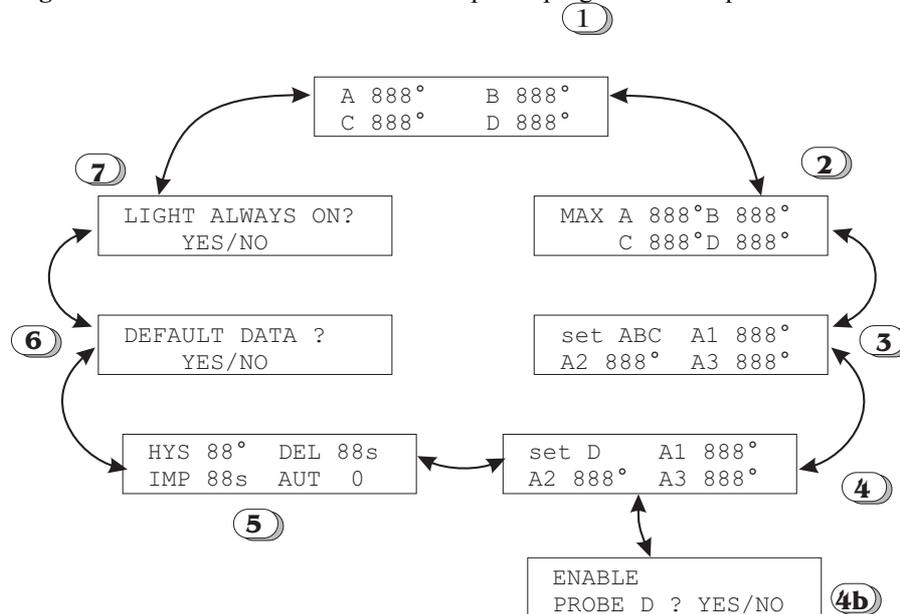

Figure 7
Pages are cyclically placed: when you arrive to the last page you directly go to the first one (see figure 7). Referring to the scheme, with the key \blacktriangledown you run the pages clockwise, whereas with the key \blacktriangle you run the pages anticlockwise.
- using **▲** and **▼** keys (as indicated in the previous paragraph) you can choose the visualization page containing the data to be programmed (for example, page 3 in figure7)
- in **page 2** of figure 7 in the programming modality, simultaneously pushing the ◆ and the ↵ keys, you can modify the maximum temperatures reached by each acquisition channel. You can only put these data at zero. Entering the programming modality the four maximum values will be simultaneously put at zero. Anyway you won't see zeros because the device, once you have finished the zero setting, will do a comparison with the measured temperatures that will surely be greater so that the maximum values will immediately be updated.
- in **page 3** of figure 7 in the programming modality, simultaneously pushing the ◆ and the ↵ keys, you can modify the temperature levels relative to the three A, B and C probes alarms. The data modification modality is the general one described above. The A1 threshold is the first alarm level, the A2 threshold is the second one and the A3 one is the last level (*transformer's uncoupling*).
- in **page 4** of figure 7 in the programming modality, simultaneously pushing the ◆ and the ↵ keys, you can go the 4b page that allows the D probe activation or de-activation. This probe is usually joined to the transformer's core, but sometimes it's not installed. In that case you have to de-activate the probe from programming to avoid the system's signal of an alarm for the disconnected probe. You can decide to activate or de-activate the D probe using the ▲ and the ▼ keys. If you activate the probe, you go to the temperature's thresholds programming page for the alarms: as for A, B and C probes the A1 threshold is the first alarm level, the A2 threshold is the second one and the A3 one is the last level (*transformer's uncoupling*).
- in **page 5** of figure 7 in the programming modality, simultaneously pushing the ◆ and the ↵ keys, you can set a series of data whose meaning is specified in the *Description of programmable data* paragraph.
- in page 6 of figure 7 in the programming modality, simultaneously pushing the ◆ and the ↵ keys, you can restore the standard data. In the programming modality it's necessary to answer 'si' or 'no' using the ▲ and ▼ keys.
- in **page 7** of figure 7 in the programming modality, simultaneously pushing the ◆ and the ↵ keys, you can choose two different options for the backlighting of the display. In the programming modality it's necessary to answer YES or NO using the ▲ and ▼ keys. If you answer YES the display will be always lighted. If you choose the second operation modality the backlighting will be usually turned off and will be turned on for a short time when the user pushes any key.
Entering the programming modality, if you simultaneously push the ◆ and the ↵ keys in the **page 1** of figure 7, you can cancel the alarms in case the alarm memory has been programmed (see the *Description of programmable data* paragraph).
- A unique *hysteresis* datum for all the programmable temperature thresholds. It avoids the alarms to switch on and off closely in time because of temperature oscillation around the temperature setpoint. This data appears as HYS in page 5 of the Figure 7.
- A *delay* datum to excite each alarm when a temperature threshold is exceeded: it represents the minimum time the temperature has to spend over the setpoint for the alarm activation. It avoids the alarms to be activated for temporary exceedings of the temperature setpoint. This data appears as DEL in page 5 of the Figure 7.
- *Alarm memory* for the alarms also when the temperature returns under the corresponding threshold value. You can select this option when you want to verify the alarm causes: in fact, in this case the alarm has to be de-activated by hand using the keys on the frontal panel. This data appears as AUT in page 5 of the Figure 7.
- *Impulse* length. It is activated only on the A3 alarm and you have to use it only if you have a throw coil isolator for the electric unit's unhooking. The relay corresponding to the A3 alarm (unhooking) will be closed for a number of seconds equal to the impulse length. If you don't want the relay to close you have to set this datum equal to zero. This data appears as IMP in page 5 of the Figure 7.
The measured temperature is lower than the setpoint but the corresponding alarm is activated	Verify the value of the set datum of hysteresis and control if the measures temperature in lower than the threshold minus this value: the alarm stops only when the temperature undergoes the setpoint minus the hysteresis value (see figure 8). If this is not the cause of the problem, verify that the alarm memory has been set. In this case the alarms can be de-activated by hand the programming modality in the principal page (see page 1 of figure 7)